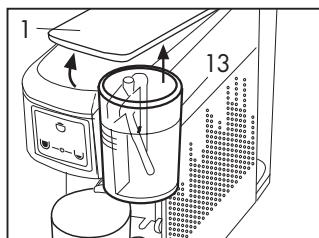

Fig. 16
- When the machine starts dispensing coffee, within 1 second press and hold down the button (C)  ; release the button (C) when the desired quantity of coffee has been reached; the machine will stop dispensing and the quantity will be memorised for future use.
Whenever milk is dispensed, lift the lever (1), remove and empty the beaker (13) and rinse it accurately. (**Fig. 16**)